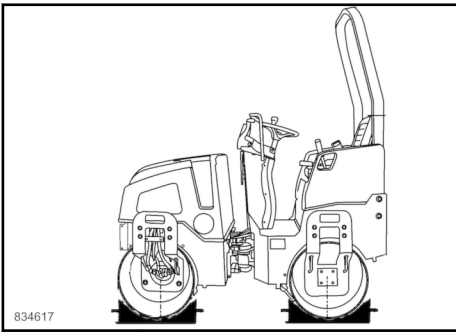

Fig. 113
1. Block the drums with suitable chocks ↪ Fig. 113.